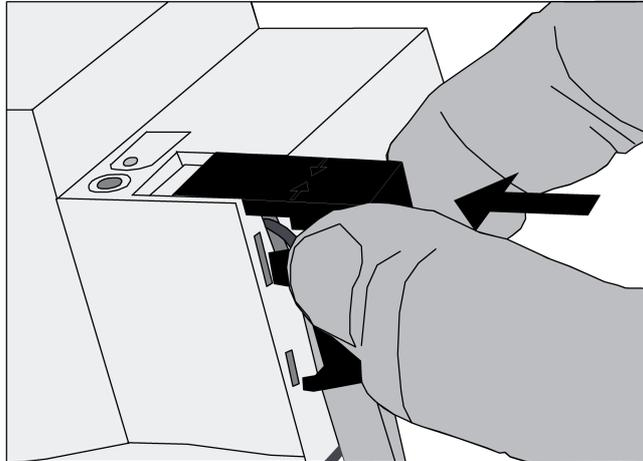

Figure 4: Installing the cover
- Install cover on top of the bus terminal so that it snaps into place (figure 4).